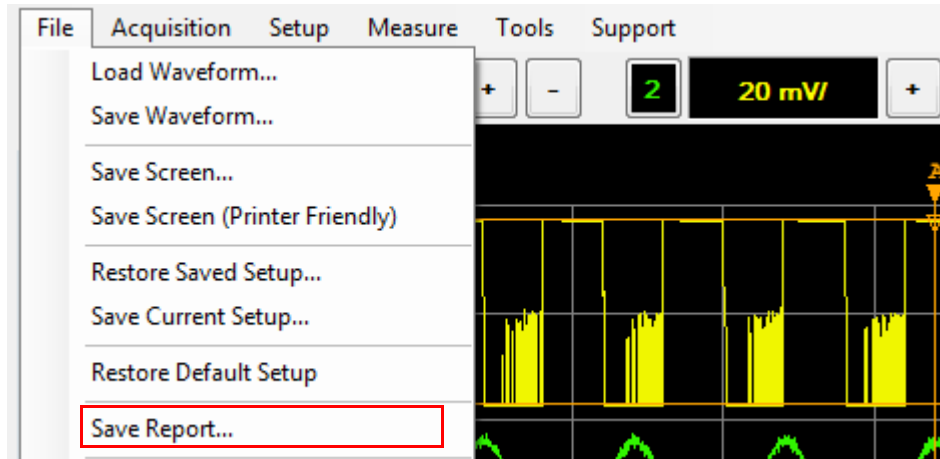

Figure 2-143 Save Report... selection in the File menu
- 1 Select **File > Save Report...** on the toolbar as shown in Figure 2-143.